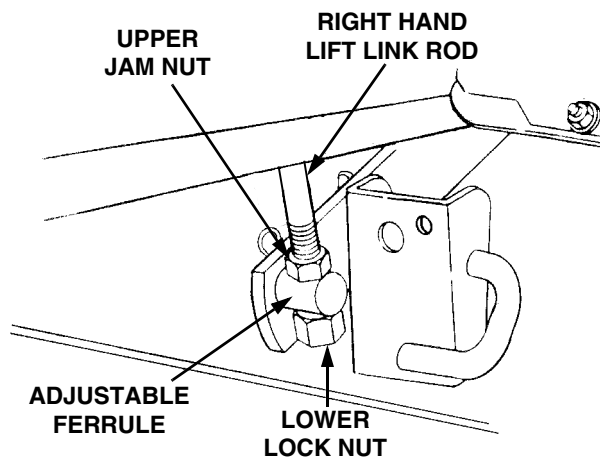

Figure 30
7. Side-to-side leveling is obtained utilizing the adjustment ferrule and right hand lift link rod (See Figure 30).
8. Loosen the upper jam nut on the lift link rod and turn away from the adjustment ferrule. Turn the lower lock nut upward (tighten) on the threads of the rod to raise the right side of the mower deck. Turn the lock nut down (loosen) on the threads to lower the right side of the mower deck (Refer to Figure 30).